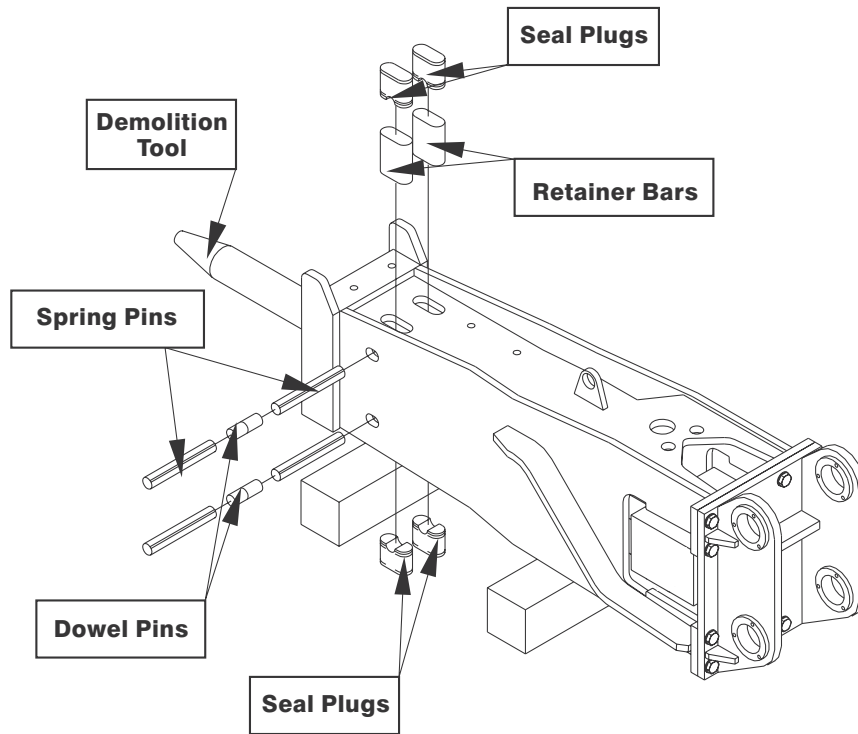

Figure 8-3. Installing Tool with Spring Pins
8.3.2 Spring Pin Style - Installation (Refer to Figure 8-3.)
3. Insert the drift pin in one of the top spring pin openings. Refer to Figure 8-3.
1. Place the Hy-Ram in a horizontal position to allow access from below. See Figure 8-3.
3. Insert the drift pin in one of the top spring pins until it makes contact with dowel pin. Refer to Figure 8-3.